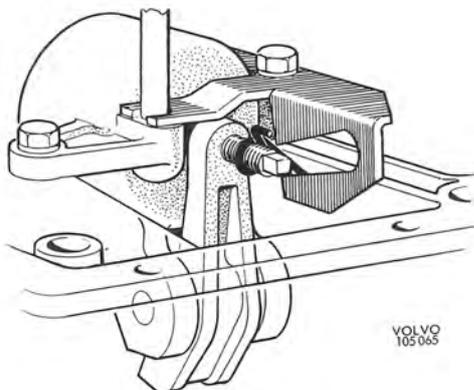

Fig. 4-120. Self-adjusting spring bolt cam
26. Adjust the location of the spring on the adjusting screw. It should be 1—2 threads from the lever. Remove the torque wrench and spacer block. Fit the cam. The long end of the spring sticks into the cam, see Fig. 4-120.